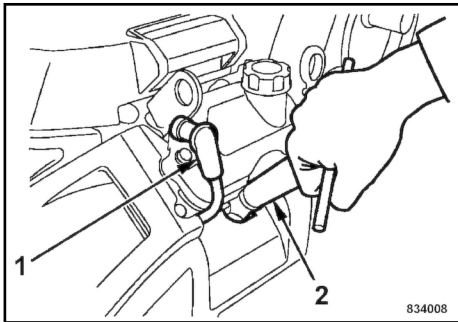

Fig. 83
Pull off the spark plug socket (1) ↪ Fig. 83 and clean off any dirt in the spark plug area.